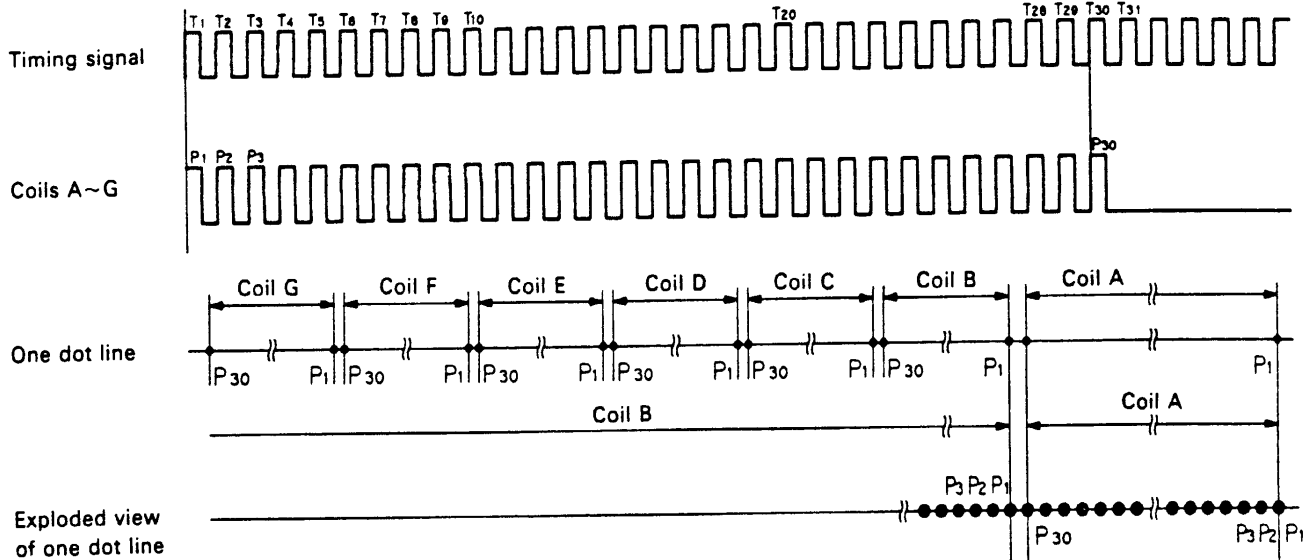

Fig. 1-13. Timing Chart for Forming One Dot Line
- **One dot line is formed as follows:** (see Fig. 1-13)
- ① Charge pulse P1, which is formed by the first Timing signal T1 following detection of Reset signal R, is concurrently applied to Coils A to G, then P1 (the dot the right edge of each coil) is printed.
- ② Charge pulse P2, which is formed by T2, is next